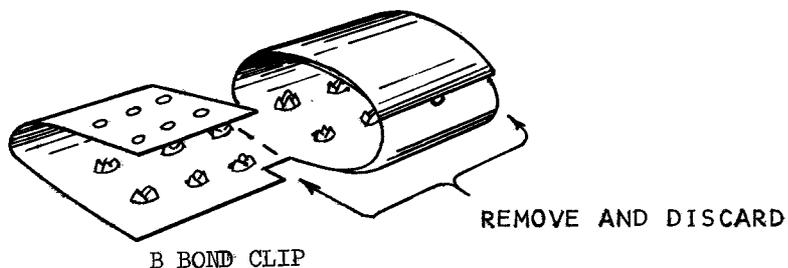

FIGURE 5
- 7.03 To modify the B Bond Clip, when bonding two ends of B Service Wire, remove the closed end of the clip as shown in Figure 5.